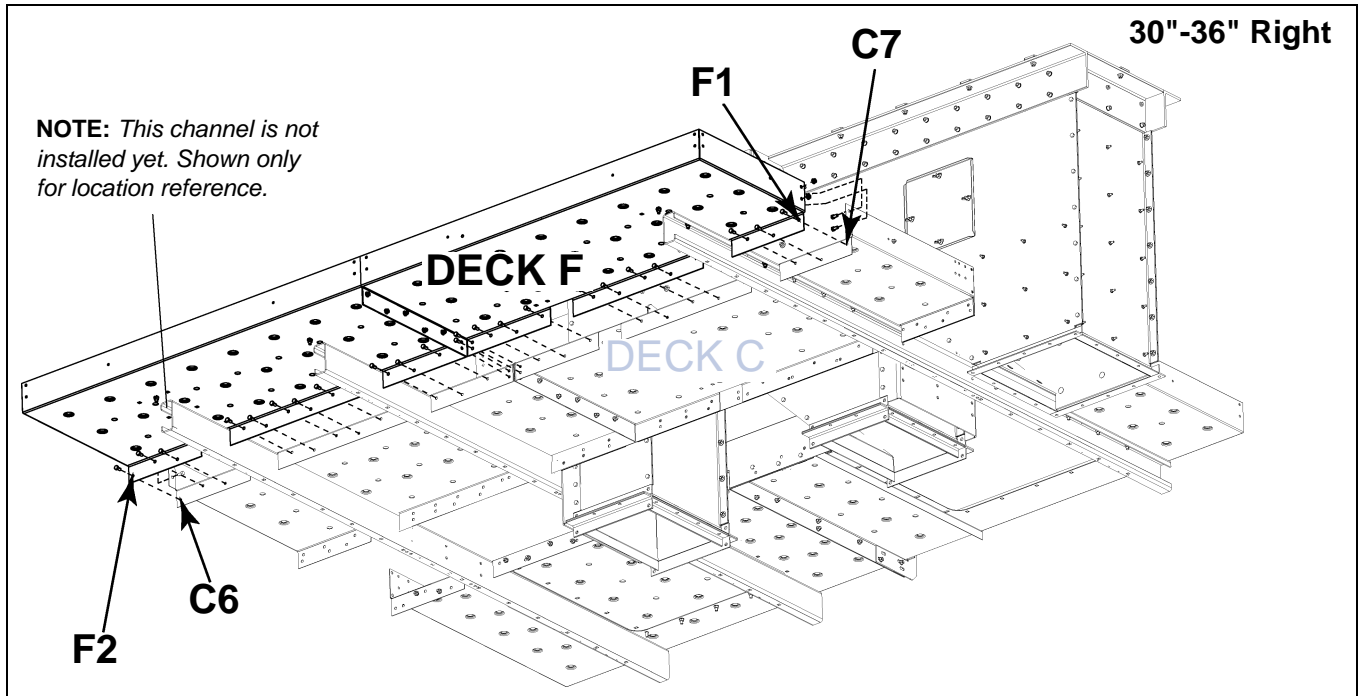

Figure 8M Deck F to Deck C
- b. Align F Deck hole **F1** to C deck hole **C7**. (See Figure 8M.)